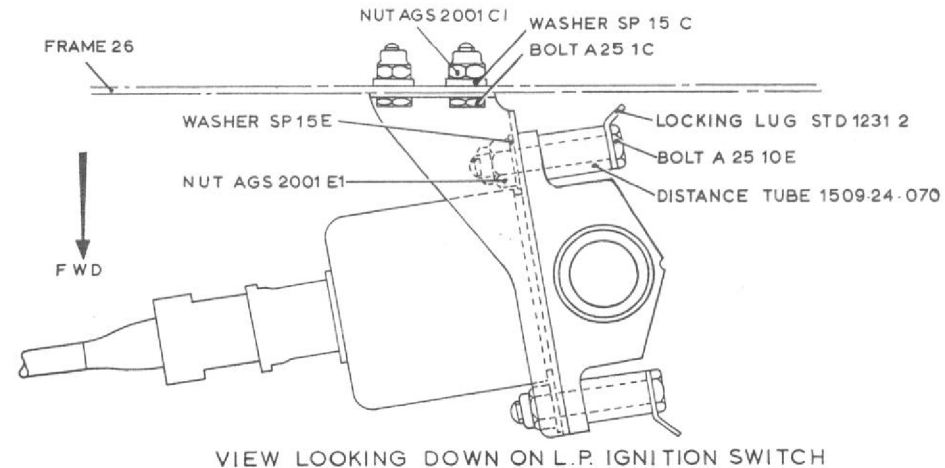

Fig.5 L.p. ignition switch installation
- (2) Remove the locking wires and disconnect the fuel pipes from the switch. Slacken other ends of pipes and move clear.
- (3) Remove two bolts, etc. securing the switch to the mounting bracket.
- (4) Apply an air pressure of 70 lbf/in2, then release the pressure.
- (5) Repeat (4) four times.
- (6) Apply a gradually increasing air pressure and check that the circuit is broken between pins A and B and made between pins A and C, at between 40 and 45 lbf/in2.
- (7) Decrease the pressure to 20 lbf/in2, check that continuity is restored between pins A and B, then release the pressure and remove the test equipment.
- (8) Fit the switch to the mounting bracket as shown on fig.5.
- (9) Re-connect fuel pipes, tighten and wire-lock connections with stainless steel locking wire.
- (10) Re-connect electrical cable.
- (11) Prime the system as detailed in para. 9.
24. (1) Remove the dust cap from the electrical connection then, using insulation tester, Table 1 item 1, check that the resistance between each plug pin and the frame and between pins A and C is not less than 5 megohms.